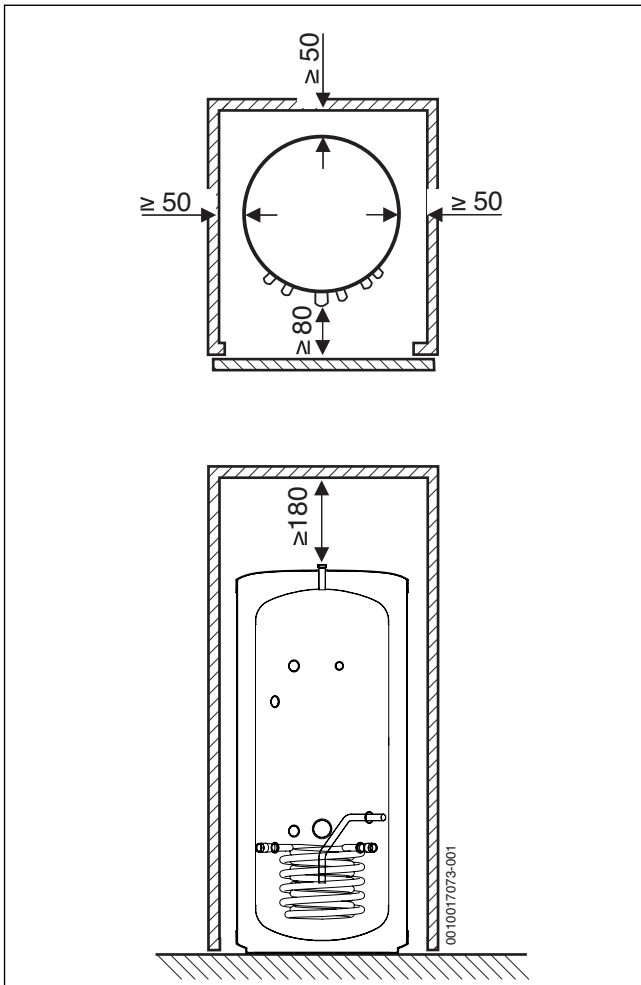

Fig. 4 Recommended minimum wall clearances
- ▶ Maintain the minimum clearances (→ Fig. 4 on page 6).